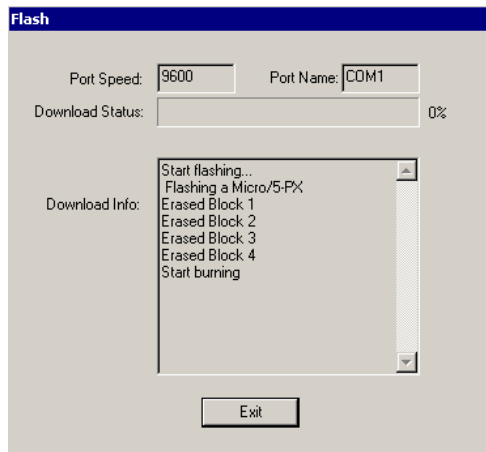

Figure 4. Standard FlashTool Flash Window
1. The firmware download and flash process takes approximately ten minutes for each micro flashed. You can monitor the flash progress window that displays, similar to Figure 4 on page 7.